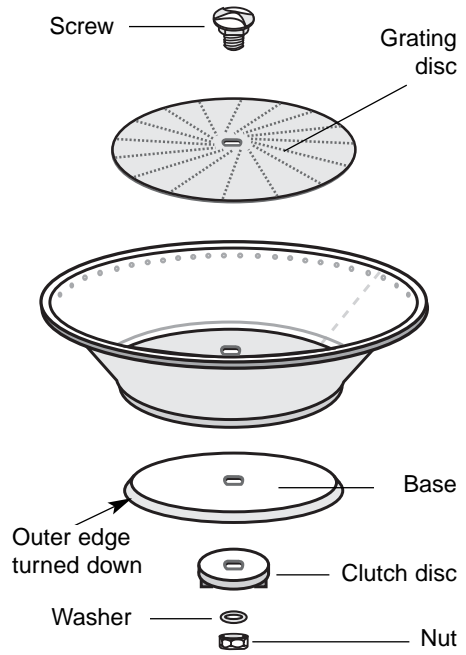

Fig. 9
- **For a periodic deep-cleaning** you can disassemble the parts of the basket by unscrewing the nut under the basket (Fig. 9).
**To disassemble the parts of the basket**, hold the basket still with one hand and unscrew the nut with a pipe wrench number 13 (Fig. 9). Pull the screw out of the basket.
Reassemble in reverse order (Fig. 9) and make sure that the base of the basket is mounted with the outer edge turned down. **To reassemble the parts of the basket** tighten the screw to the nut with a pipe wrench number 13. Ensure that the parts are tightly attached to one another.